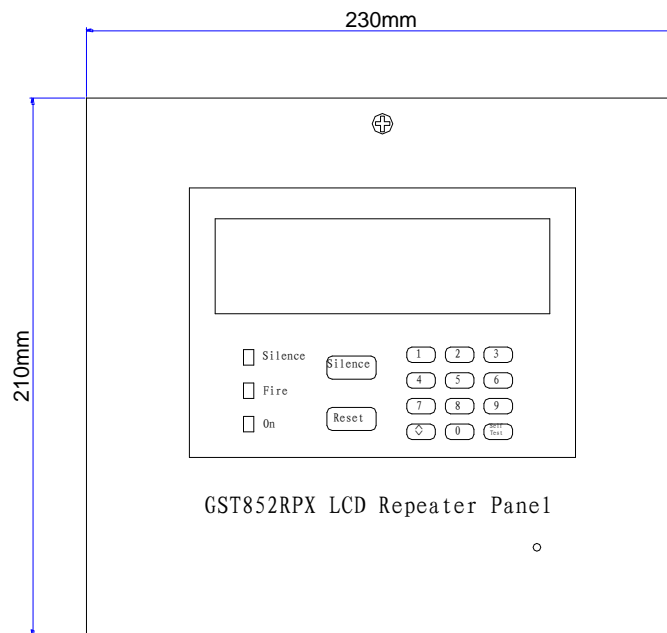

Fig. 2
2. Front panel of the repeater panel is shown in Fig. 2.